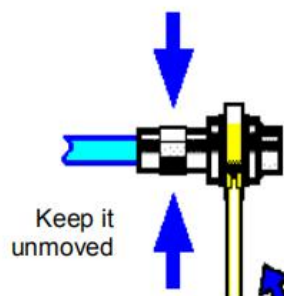

Fig. 2.5 Completion of final connection with a torque wrench
Step 3. As shown in Fig. 2.5, use a torque wrench to tighten the connectors and finish the connection; the torque wrench shall not exceed the starting break point and an auxiliary wrench can be used to prevent the connector rotating.